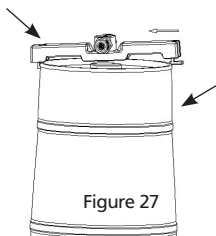

Figure 27
5. Pull out the dispensing device from the empty beer keg; (Figure 27)